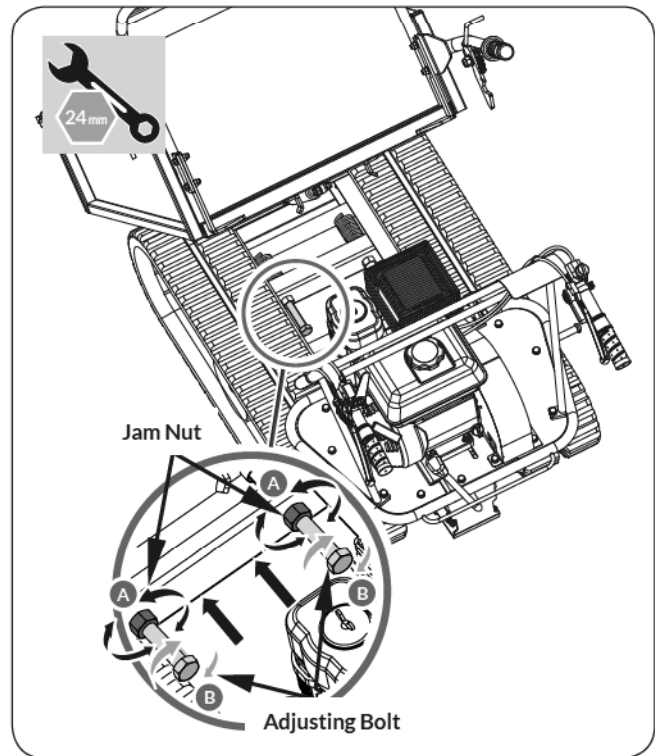

Figure 13b
5. Return the hopper to its original position. (See **Figure 13b**)